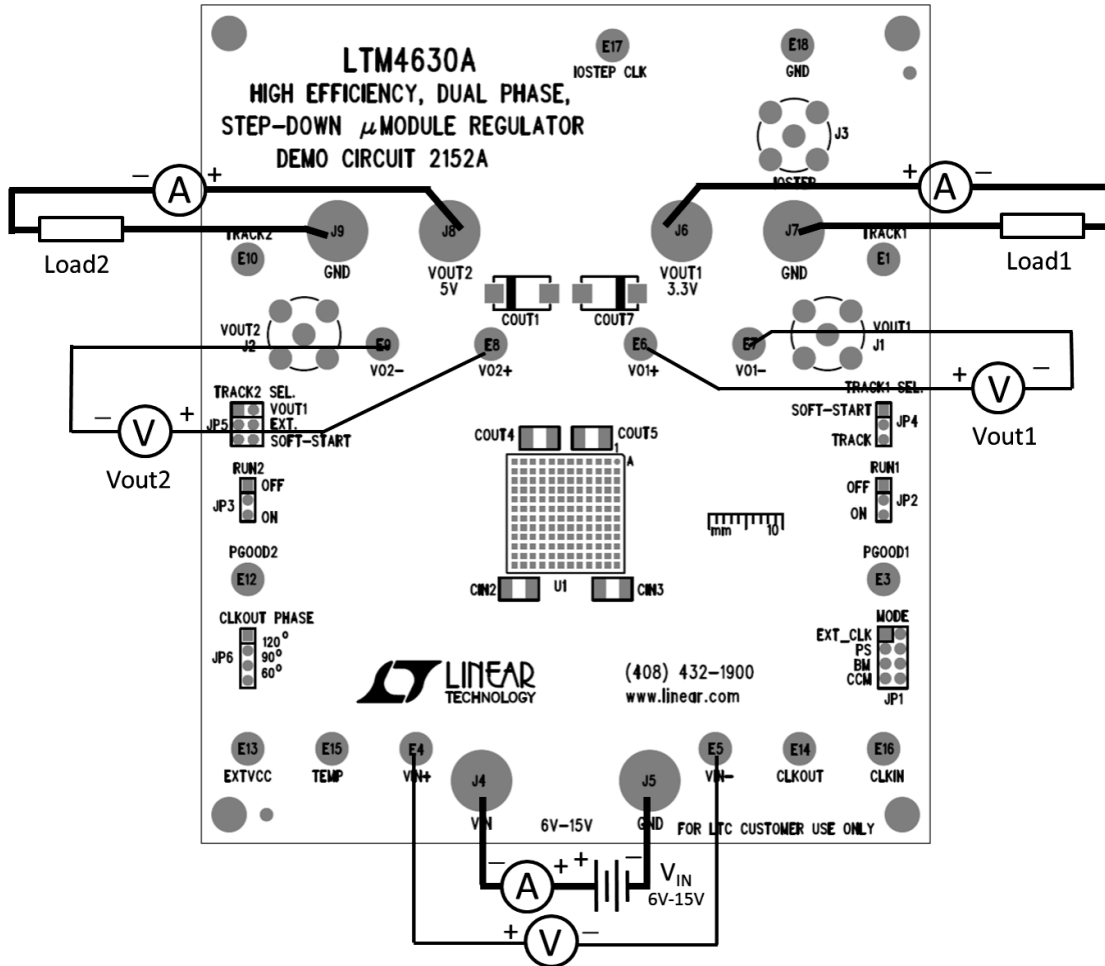

Figure 1. Test Setup of DC2152A
Demonstration circuit DC2152A is easy to set up to evaluate the performance of the LTM4630AEV. Please refer to Figure 1 for proper measurement setup and follow the procedure below:
- With power off, connect the input power supply, load and meters as shown in Figure 1. Preset the load to 0A and  $V_{IN}$  supply to 12V.